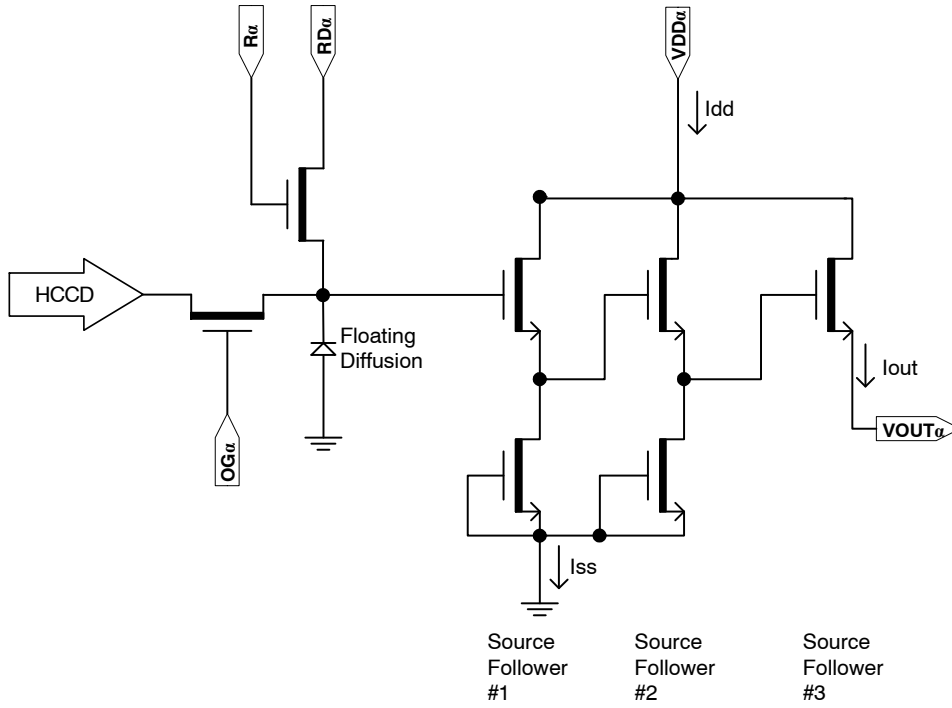

Figure 17. Output Amplifier
- The maximum DC current is for one output.  $I_{dd} = I_{out} + I_{ss}$ . See Figure 17.